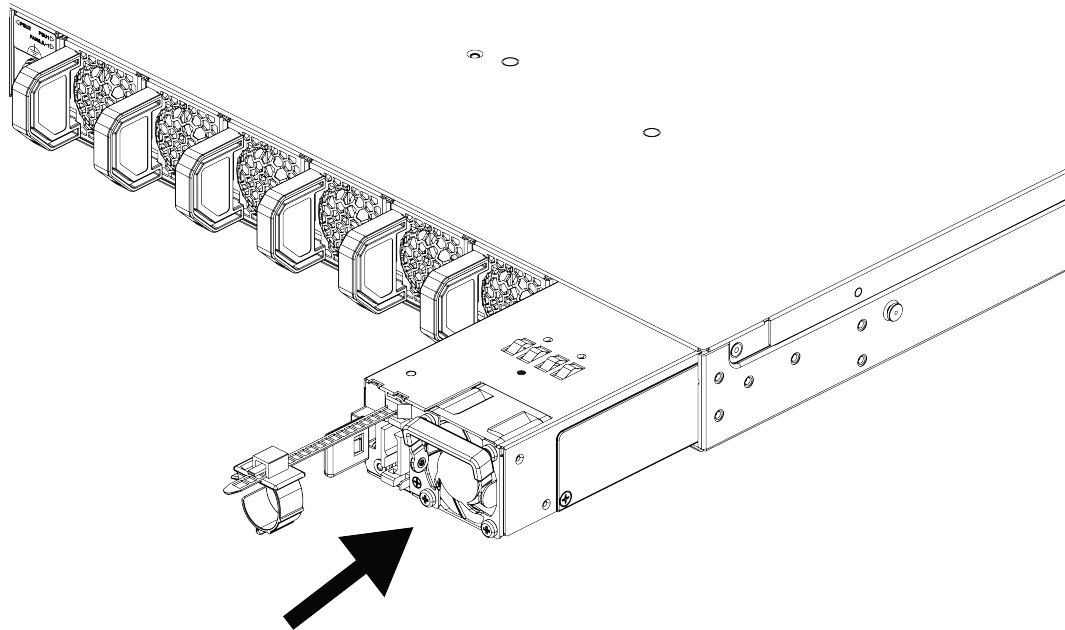

Figure 33: Replace an 800 W DC Power Supply
6. Carefully slide the power supply all the way into the power supply bay until the latch snaps into place, as shown in Figure 33.